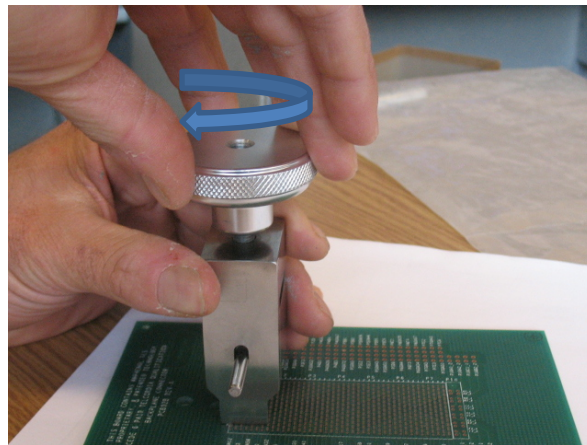

Figure 15. Removing of BMA
Step 6. The module is now clamped in the tool. Start turning knob clockwise as shown in Figure 15.